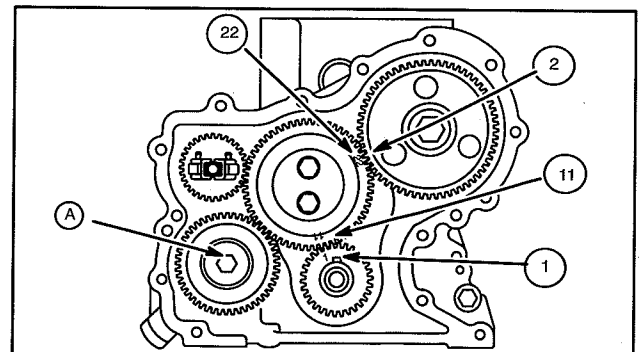

Fig. 19 - Aligning Timing Marks
5. With crankshaft key at 12 o'clock position, assemble idler gear so that timing mark 11 (AA) is aligned with timing mark 1 (A) on crankshaft gear, timing mark 22 (BB) is aligned with timing mark 2 (B) on camshaft gear as shown in Fig. 19.